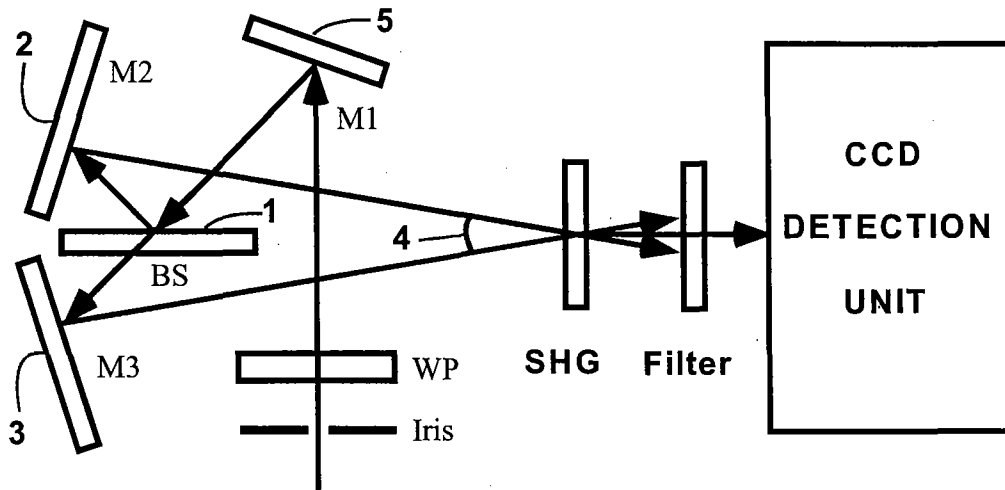

Figure 4 Layout of the standard Δ single shot autocorrelator.
6. Close the entrance iris to minimum aperture size (0.5 mm). As shown in figure 4, the input laser beam will go through the iris and the half wave plate (WP) and reach the directing mirror (M1). The laser beam is then separated into two beams by the beam splitter (BS) and they are reflected separately by the mirror M2 and M3 to recombine at the center of the
23. The laser beam after the mirror M1 will be separated into two beams by the beam splitter (BS) as shown in figure 4. The separated two beams should be recombined at the center of the SHG crystal.